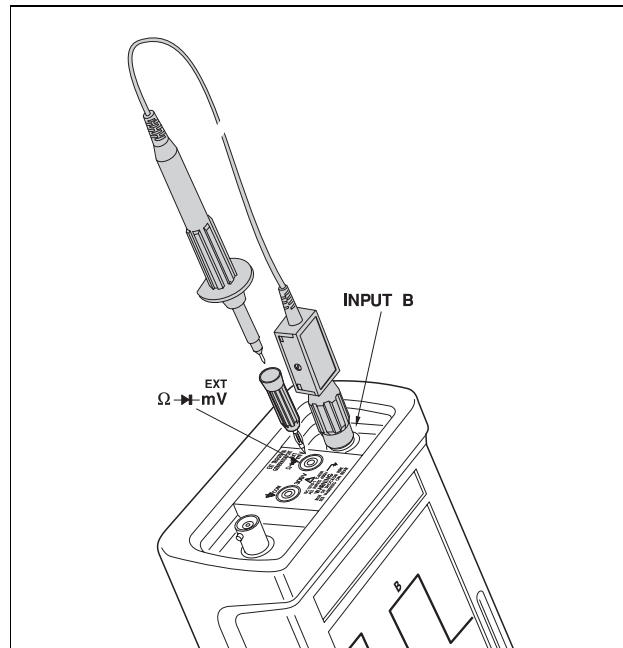

Figure 8-4. INPUT B Probe Calibration Setup
1. Connect the INPUT B BNC input to the GENERATOR OUT red banana jack. See Figure 8-4. Use the grey scope probe and the grey 4-mm banana adapter.